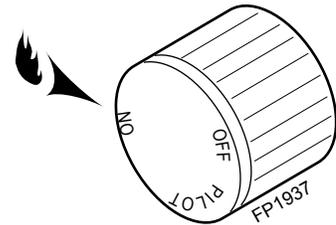

Figure 5
3. Turn control knob to "ON" position following the lighting instructions in owner's manual. Use soapy water to check for leaks around fitting of aluminum tubing. Light burner. *Figure 5*